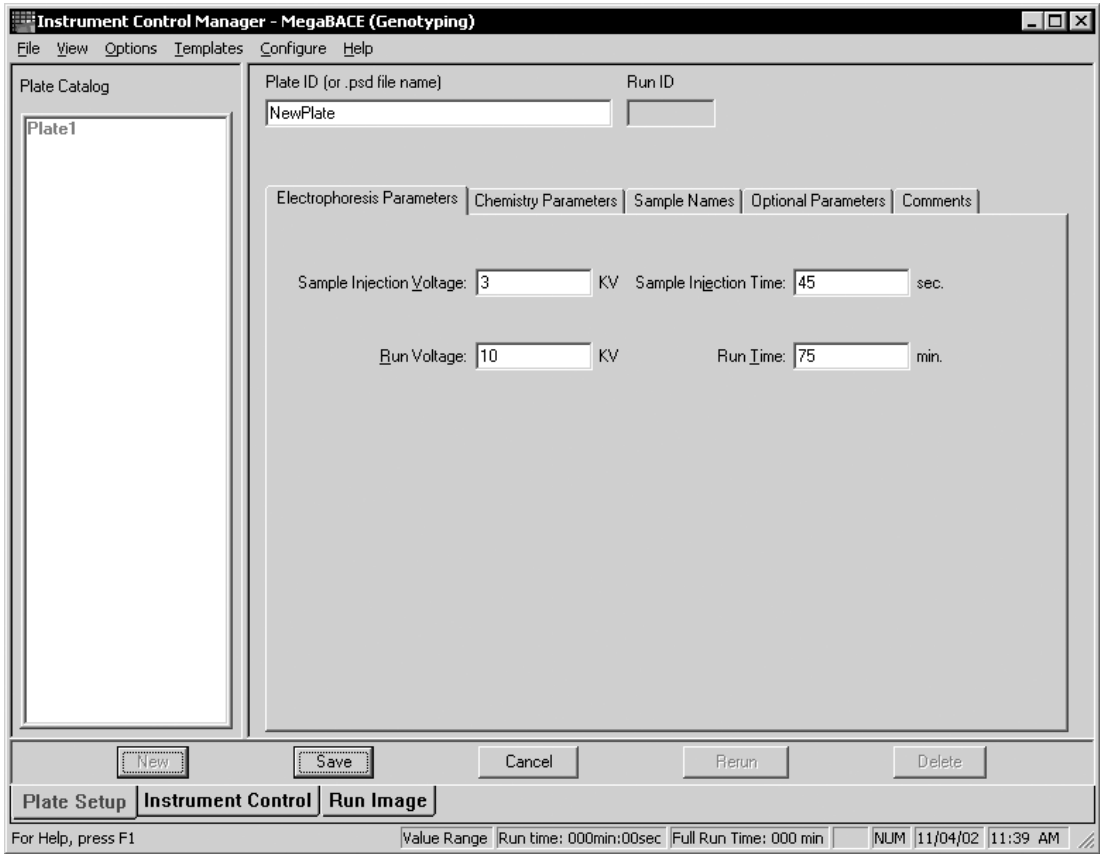

Figure 9-1. The Plate Setup window for the STR genotyping application.
- The Plate Setup window (figure 9-1) to create the definitions before the run. The operator can select the precreated plate definitions at the start of the Inject Samples and Run protocol.
You or an operator can create the plate definition before the run using the Plate Setup window (figure 9-1). To do this, you or the operator can—
You can use the Plate Setup window (figure 9-1) to create a plate setup template. To do this—
1. In the Instrument Control Manager, click the **Plate Setup** tab to display the Plate Setup window (figure 9-1).